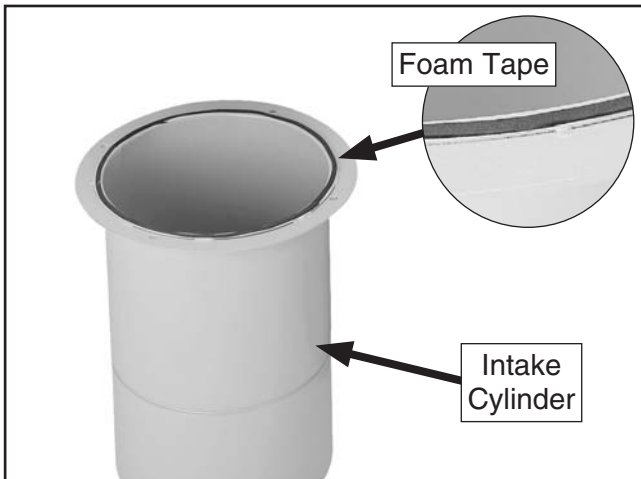

Figure 11. Foam tape stuck on intake cylinder.
2. Attach the 3 x 6mm foam tape to the top of the intake cylinder, as shown in **Figure 11**.